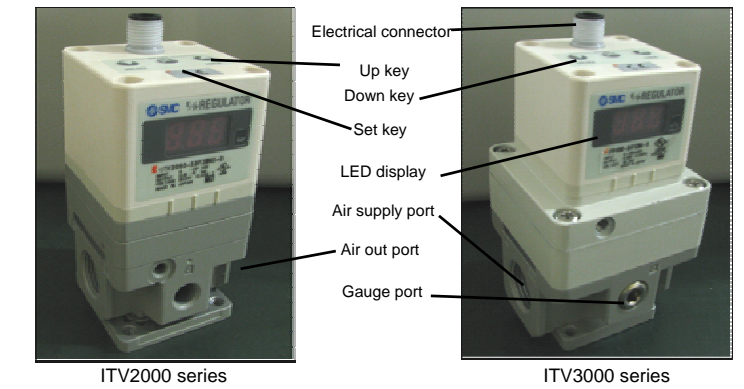

Fig. 7 - Key features of the ITV.
- Push 'Up' and 'Down' keys (Fig 7) together for longer than 3 seconds.